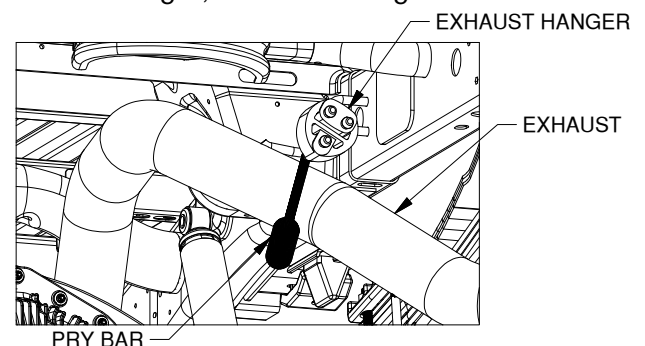

Figure A4: Looking under truck bed towards cab
7. **Disconnect the exhaust hanger:** Locate the exhaust hanger in the rear passenger portion of the truck, see figure A4. Disconnect the exhaust from the hanger to provide improved mounting access to the center section. It is recommended that a pry bar be used to aid in disconnecting the exhaust hanger, as shown in figure A4.